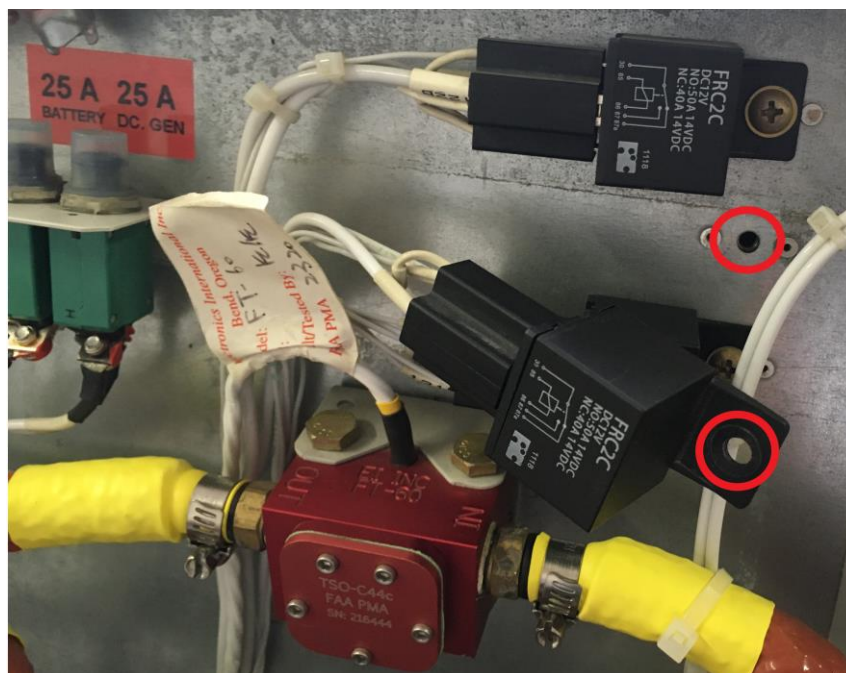

Fig. 6: Relay
- Middle position for digital avionics models (See Fig. 6)